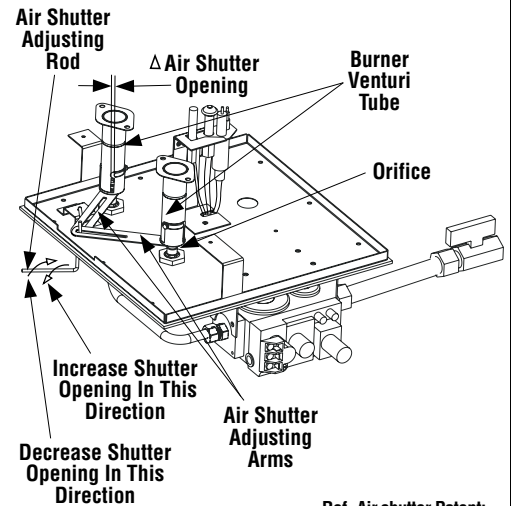

Figure 11
1. Locate adjustment rod and adjust air shutter to the standard setting as shown in **Figure 11** (adjustment rod is located in the lower control area).